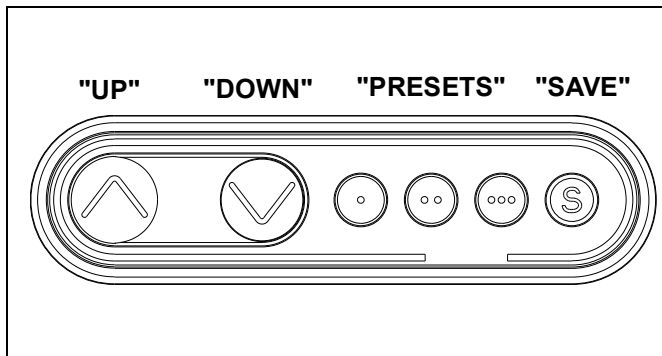

Figure 24
1. Press "UP" or "DOWN" buttons to raise or lower height as desired. (See Figure 24)
1. Adjust height until desired preset level is reached using "UP" and "DOWN" buttons. (See Figure 24)
2. Press "SAVE" button. (See Figure 24)
3. Press one of three preset buttons (., .. or ...) to save preset position. (See Figure 24)